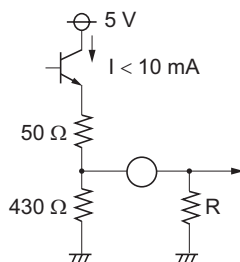

Figure 2
5. The terminal of R, G, B output pin (pin 27, 30, 35). It is possible to add a pull-up resistor according as drive ability. But set the value of resistor in order that the current is under 10 mA. Setting the value of R is more than 500 Ω as shown in Figure 2.